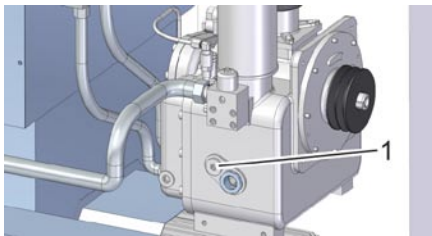

Fig. 32: Filler nozzle
4. Unfasten the filler nozzle (Fig. 32/1), remove it and make sure that the gasket is not misplaced.